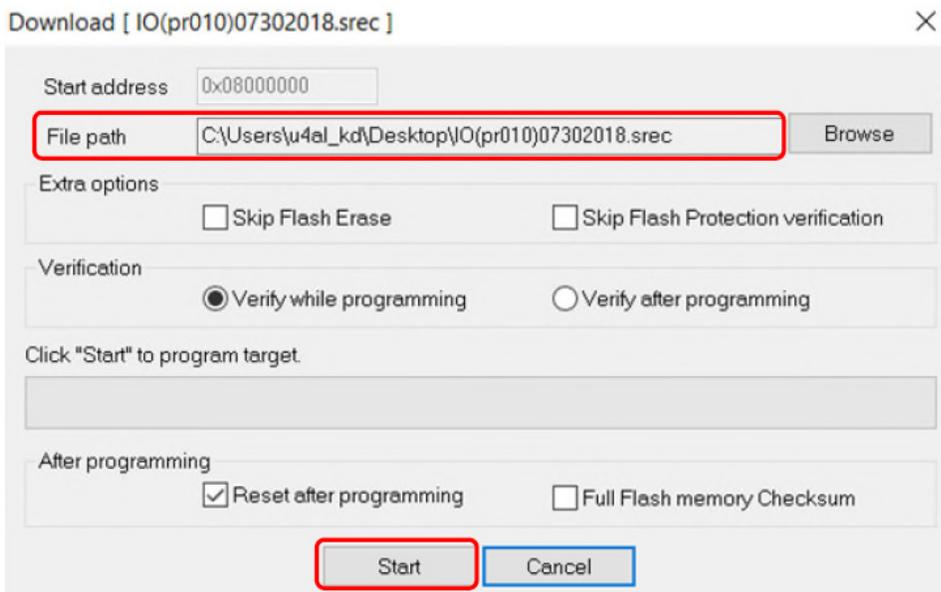

Figure 4: Start Programming
9. Figure 4 will appear. Once this window appears, click on Browse next to the File Path Box. Find the correct .srec file for the Module that is being configured. Click Start to program the Module.